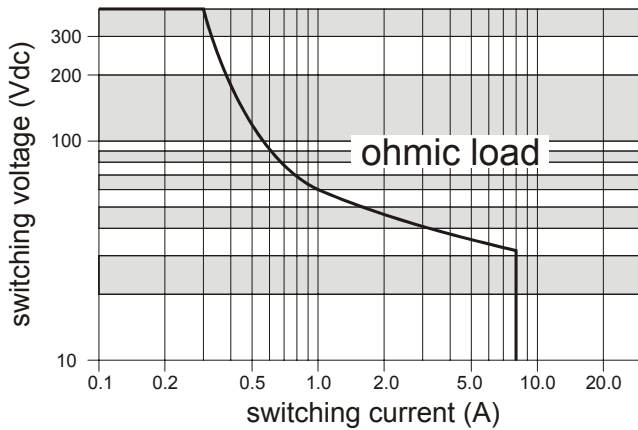

Fig. 8. Relay characteristic
- The normally-open contacts are designed for a max. continuous current of 3 A at max. 230 Vac and cos φ = 1. The d.c. characteristic is shown in Fig. 8.